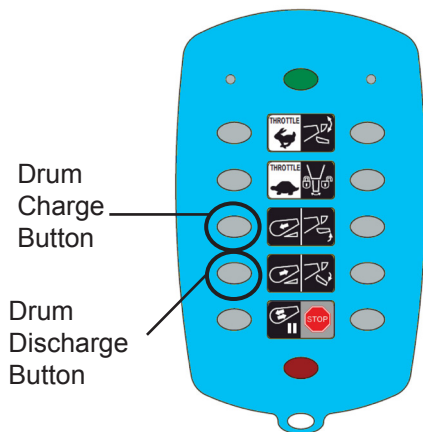

Figure 37
3. Press the appropriate button, either Charge (Figure 37) or Discharge (Figure 37), on the Wireless Transmitter.